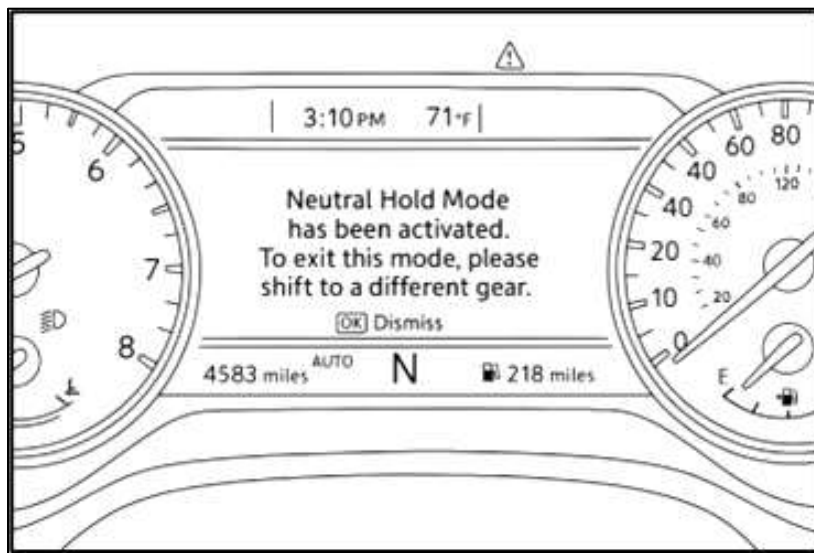

Figure 5
- With the brake pedal fully depressed, shift the transmission into Drive (D) and hold for 5 seconds.
- Shift into Reverse (R) and hold for 5 seconds.
- Return the transmission to Park (P).
- e. Press the Park (P) button on the shift lever.
- f. Slide the shift lever to the Neutral (N) position and hold for approximately 0.5 seconds until "N" appears in the vehicle information display.
- g. Slide the shift lever to the Neutral (N) position again and hold for approximately 0.5 seconds until the "Neutral Hold Mode has been activated" appears in the vehicle information display (Figure 5).